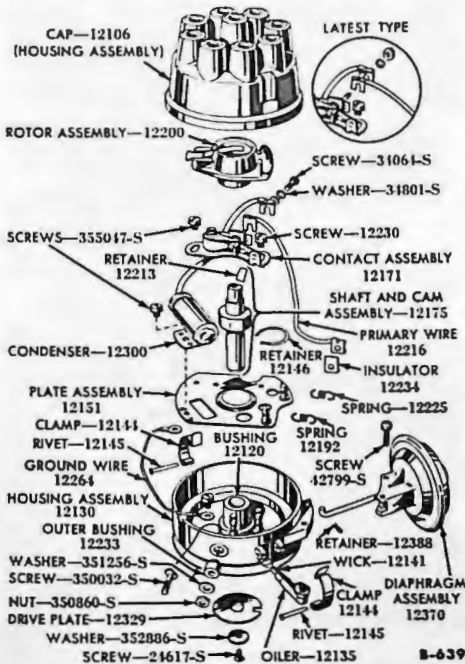

Figure 9—EQ Distributor, Disassembled
(3) **EQ AND MB SERIES.** Remove the screw and the distributor drive plate (fig. 9). Lift the cam and shaft assembly from the housing. Then follow the procedure for disassembling the R series distributor in subparagraph (1) above, with the exception that these distributors are equipped with only an upper bushing.